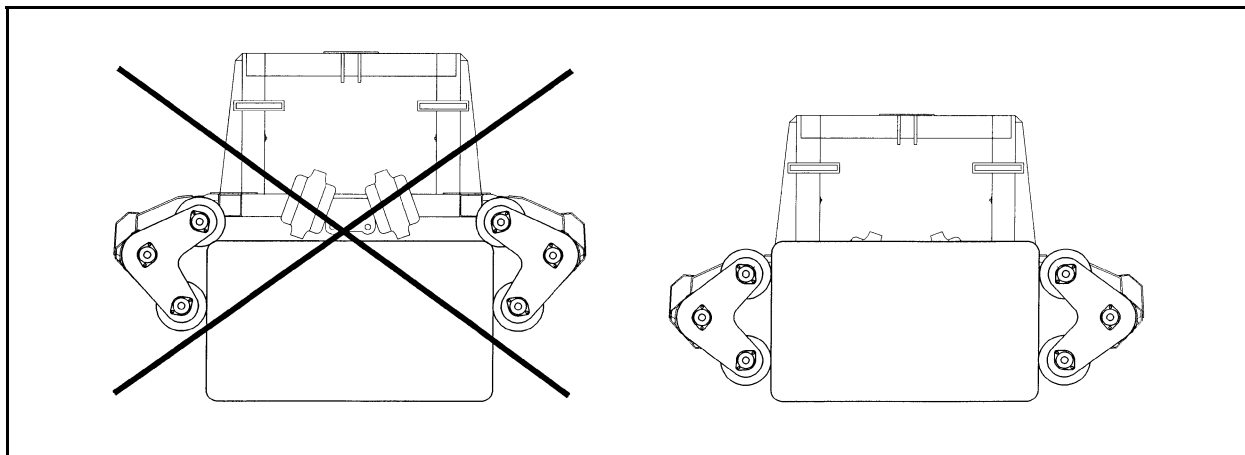

Fig.10-5
- a) When loading small square bales it is important to lower the rollers as close to the ground as possible. This to make all four rollers to get a grip on the side of the bale. If two of the rollers come over the bale, the machine will not be able to load it. (See fig. 10-5). If necessary, adjust the position of the rollers by means of the limiting chains. (See section 10.1.)
- d) Sometimes it can be necessary to move the width between the rollers while wrapping. This is most in common when wrapping bad shaped and loose pressed bales. If the machine has problems rotating the bale, you can move the rollers in or out with the **ROLLER OUT (7)** or **ROLLER INN (6)** with the control box while wrapping.